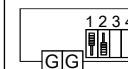
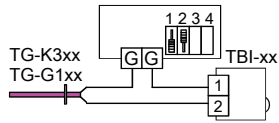

Figure 2 Switch setting for internal setpoint and sensor.
Figure 6 Switch setting and wiring using external, separate sensor and potentiometer TBI-xx as setpoint.
- Terminals G and G = External sensor and setpoint, not polarity sensitive (*Figure 2 -Figure 6*)